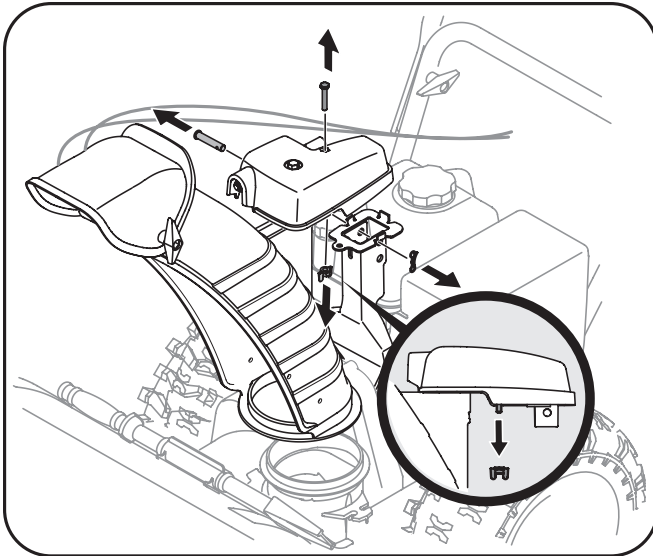

Figure 3-3
- Remove wing nut and hex screw from chute control head. Remove clevis pin and bow-tie cotter pin from chute support bracket. See Figure 3-3. Position the chute assembly (forward-facing) over the chute base.